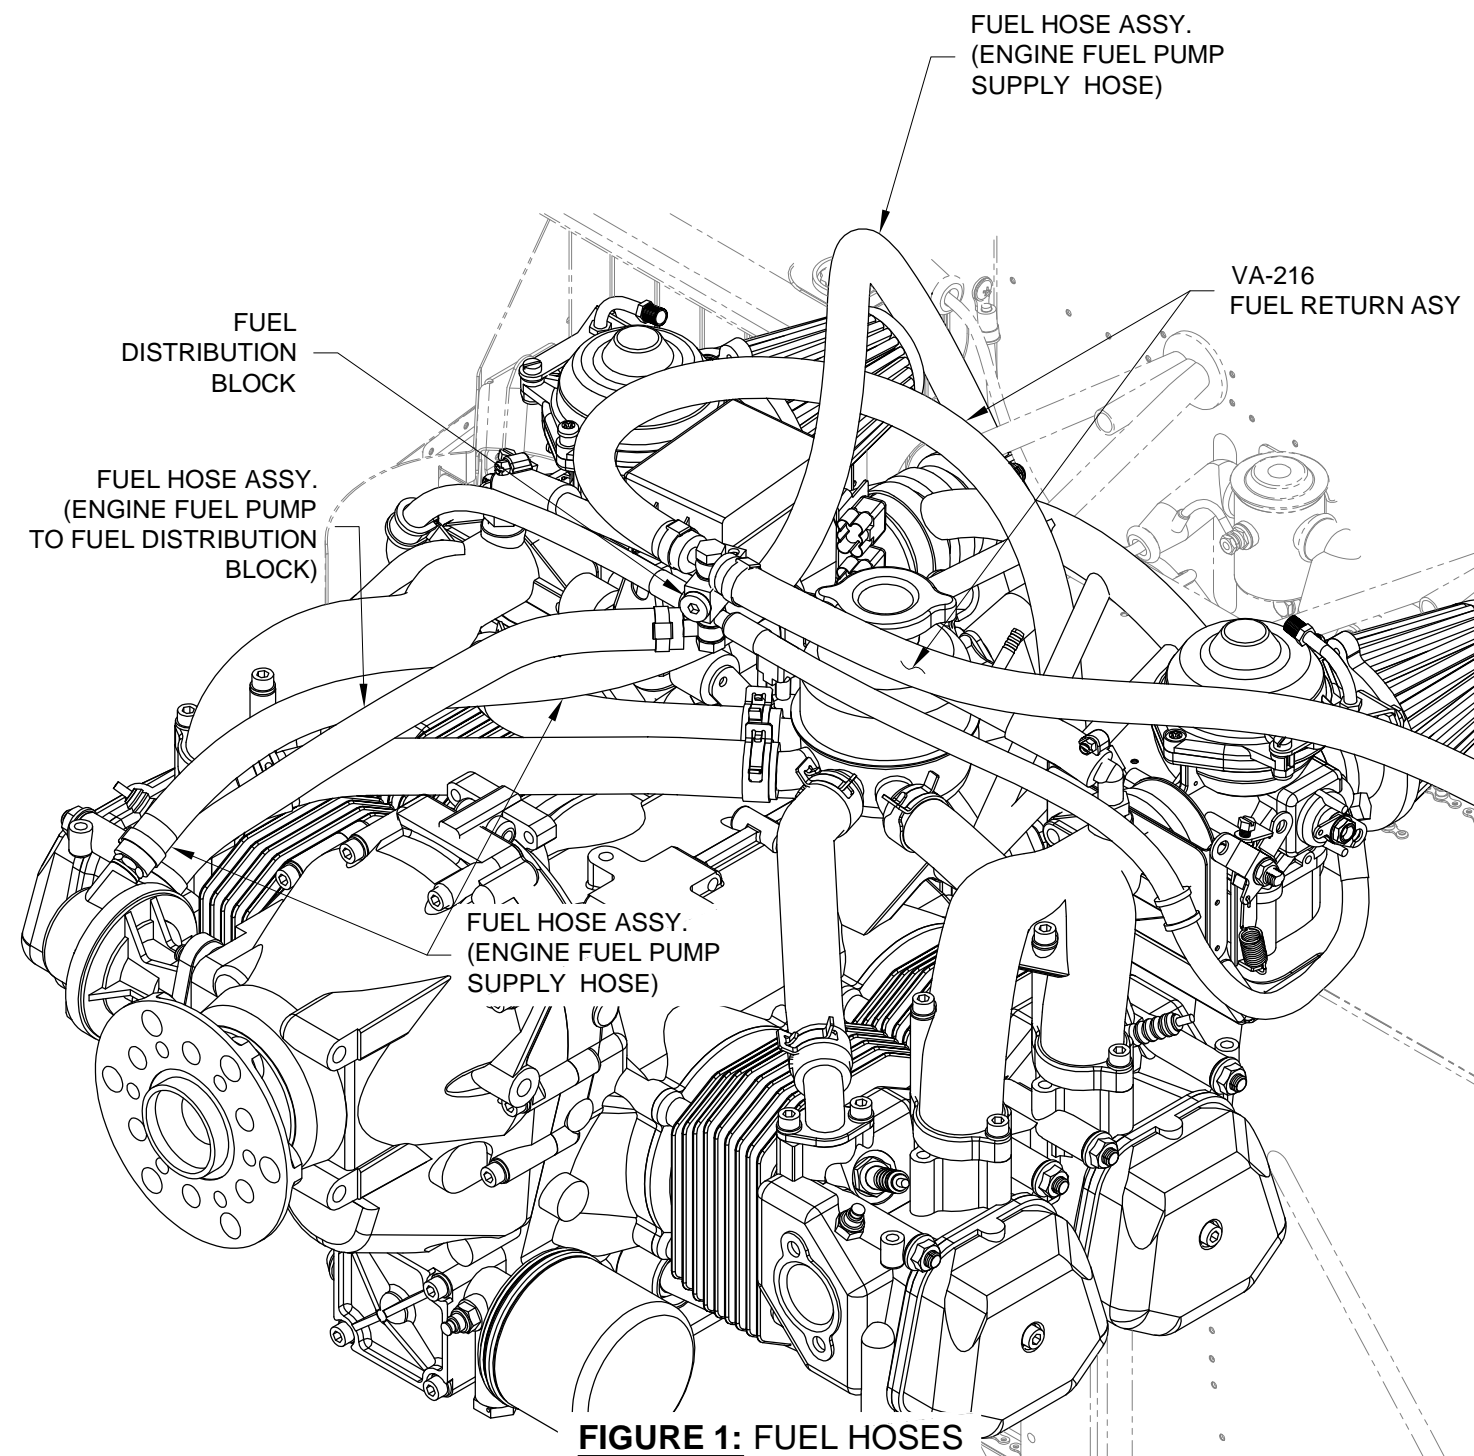

FIGURE 1: FUEL HOSES
Step 1: Cut the FF-01224 Interconnect Hose and FF-01225 Drain Hose from EA HOSE H175 per Figure 1 dimensions.